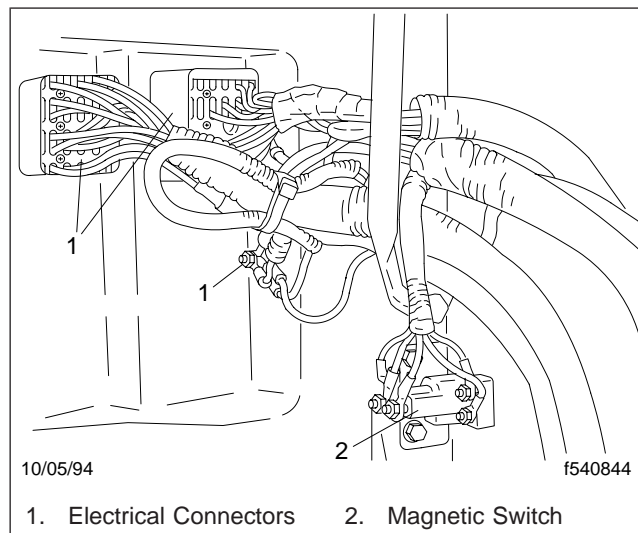

Fig. 2, Right Side of the Firewall
8. Check connectors on the right side of the firewall, below the radiator surge tank. See **Fig. 2**. Check the terminals for tightness, damage, and corrosion or dirt.